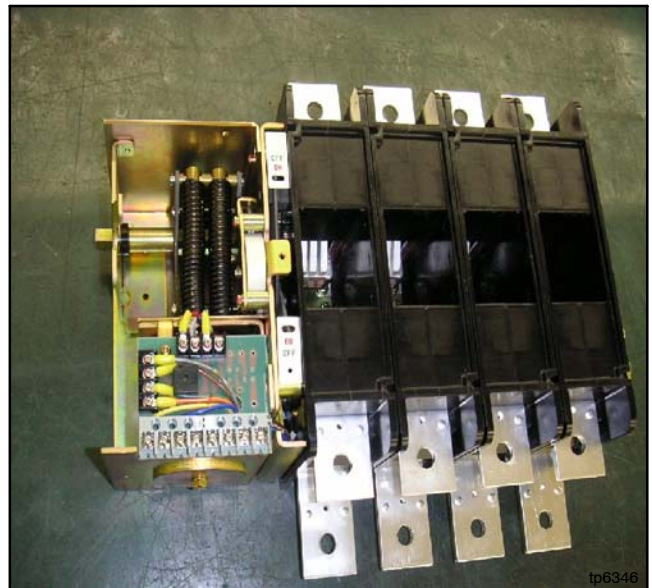

Figure 7-23 Assembled unit
2. Assemble the current-carrying unit, and the mechanical unit. See Figure 7-23.